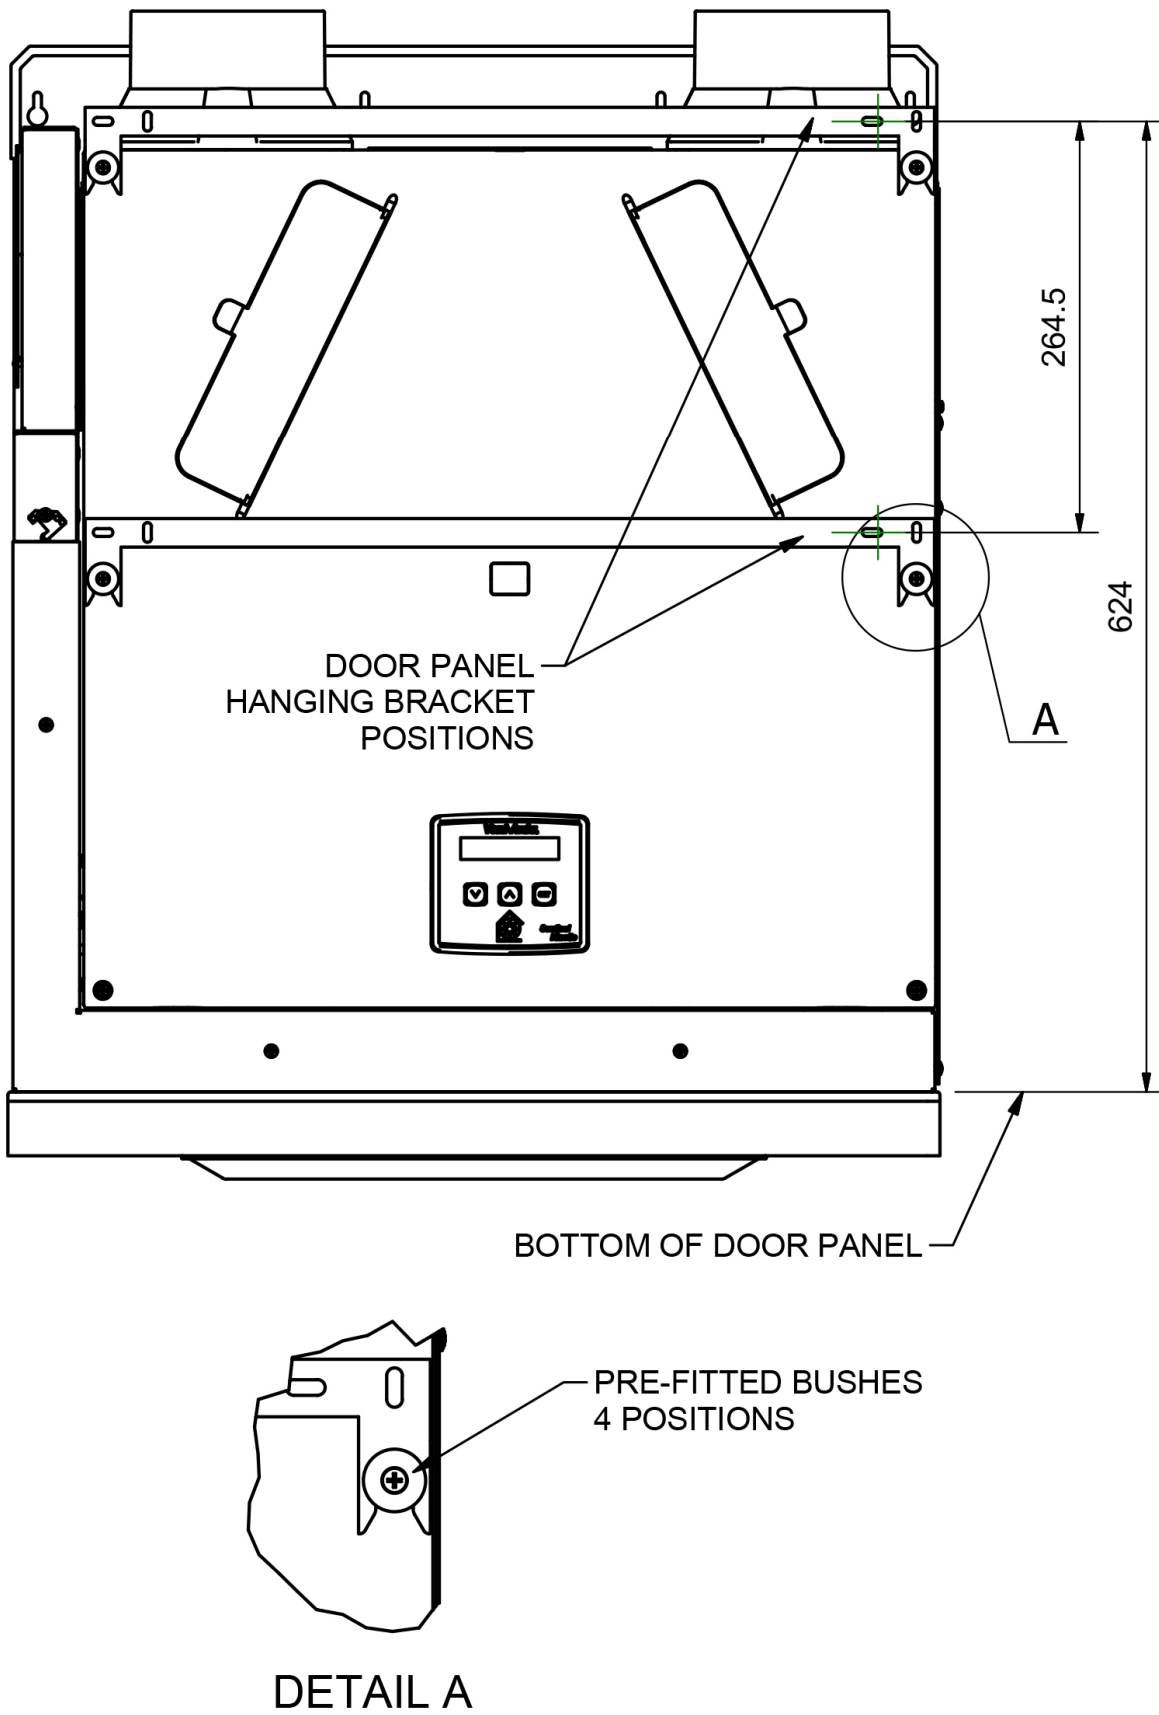

Figure 8: Door Panel Hanging Bracket Positions
15. Fix hanging brackets supplied to the front door panel, then offer it to the pre-fitted bushes (fig. 8). Spacers may be used to pack out the bushes to maintain the line of the cupboard doors.